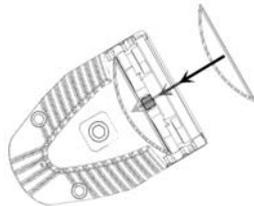

Figure 3
1. Position the fixture with the front of the unit (the lens side) facing you, and tilted up slightly (**Figure 3**).